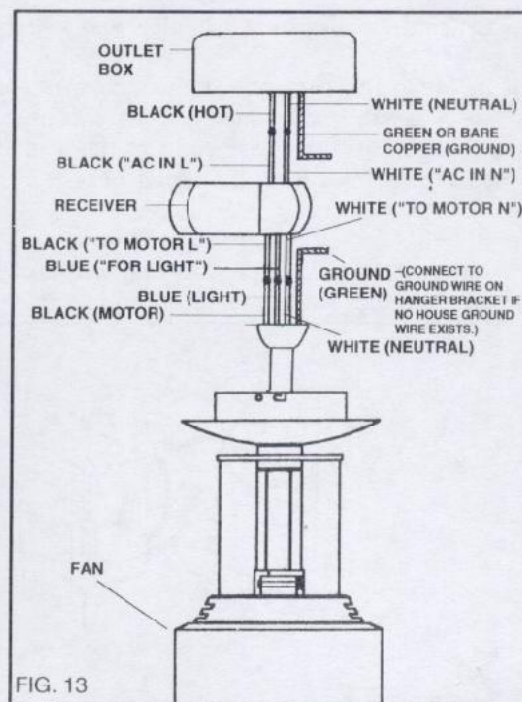

FIG. 13
Step 2. (Fig. 13 & 14). Motor to Receiver Electrical Connections: Connect the Black wire from the fan to the Black wire marked "To Motor L". Connect the White Wire from the fan to the White wire marked "To Motor N" from the receiver. Connect the Blue wire from the fan to the Blue wire marked "For Light" from the receiver. Secure wire connections with the plastic wire nuts provided.
Step 3. (Fig. 13 & 14). Receiver to House Supply Wires Electrical Connections: Connect the Black (hot) wire from the ceiling to the Black wire marked "AC in L" from the Receiver. Connect the White (neutral) wire from the ceiling to the White wire marked "AC in N" from the Receiver. Secure wire connections with the plastic wire nuts provided.
Step 4. (Fig. 13 & 14). If your outlet has a ground wire (green or bare copper) connect it to the Hanging and Mounting Bracket ground wires; otherwise connect the Hanging Bracket ground wire to the Mounting Bracket. Secure wire connection with a plastic wire nut provided. After connecting the wires spread them apart so that the green and white wires are on one side of the outlet box and the black and blue wires are on the other side. Carefully tuck the wire connections up into the outlet box.